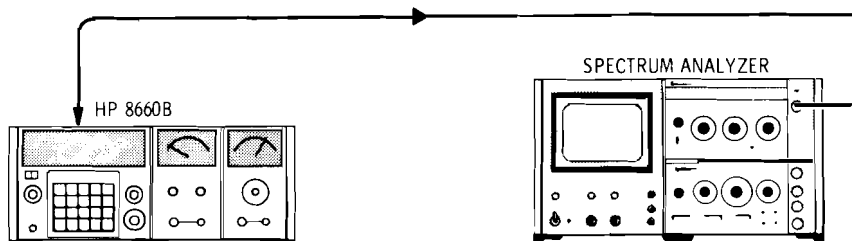

Figure 5-5. RF Level Checks
- d. Connect the Spectrum Analyzer RF INPUT to the 100 MHz output of the A4A4 assembly and tune the Spectrum Analyzer CENTER FREQUENCY to 100 MHz. The 100 MHz signal should be  $> +10 \text{ dBm}$ . (See Figure 5-5).
a. Connect the Spectrum Analyzer RF INPUT to the 500 MHz output connector on the A4A4 assembly and tune the analyzer to 500 MHz. Set the analyzer scan width to 50 MHz per division and other analyzer controls for a clear display. (See Figure 5-5).